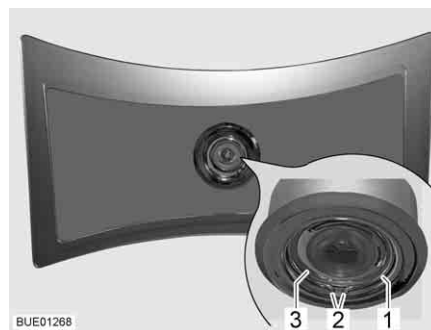

Fig. 220 Ceiling lamp
- Press the two ends (Fig. 220,2) of the spring ring (Fig. 220,1) together and remove.
- Remove the housing (Fig. 220,3) with LED from the lamp.